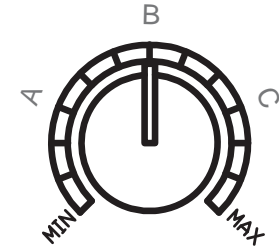

Figure 32 - Pot, Pressure and Delay. (Values are Approximate)
1. Adjust RESTRICTION PRESSURE Pot #3 to approximately 700 psi (see Figure 32 page 13). It may be necessary to adjust this pressure up or down to successfully build a plug.